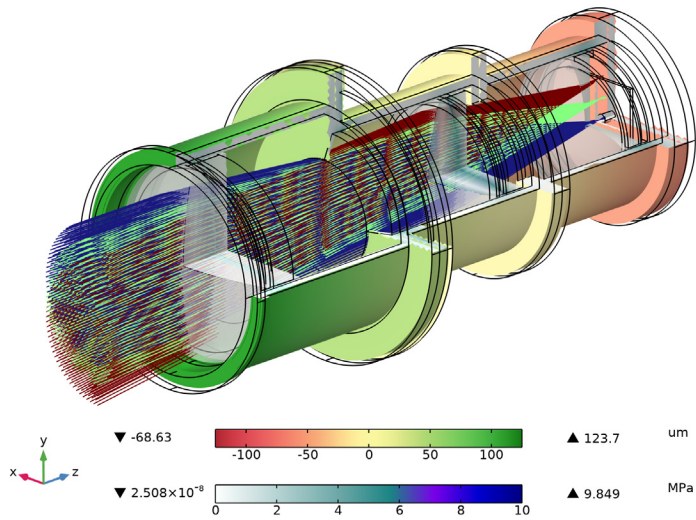
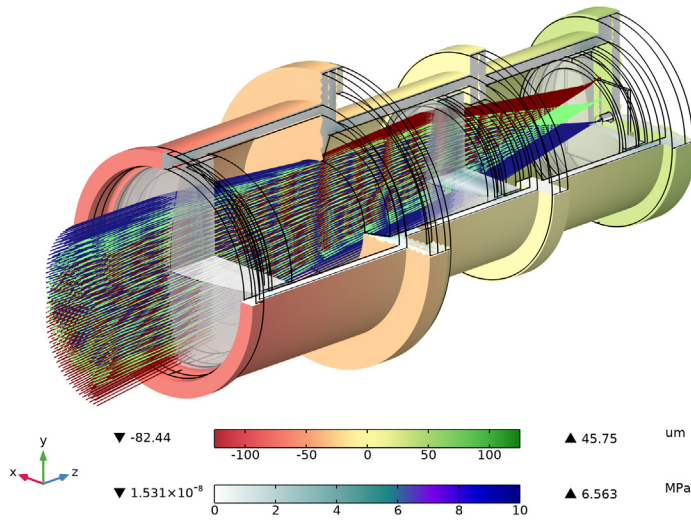

Figure 6: In this ray trace, the displacement field is shown together with the von Mises stress for a temperature  $T = -25^{\circ}\text{C}$ .
Figure 9: In this ray trace, the displacement field is shown together with the von Mises stress for a temperature  $T = 50^{\circ}\text{C}$ .
Figure 6 to Figure 9 shows the same stress plots together with the absolute lens displacement.
- 4 In the **Displacement** toolbar, click  **Plot**. Compare to Figure 6.
- 10 In the **Displacement** toolbar, click  **Plot**. Compare to Figure 9.